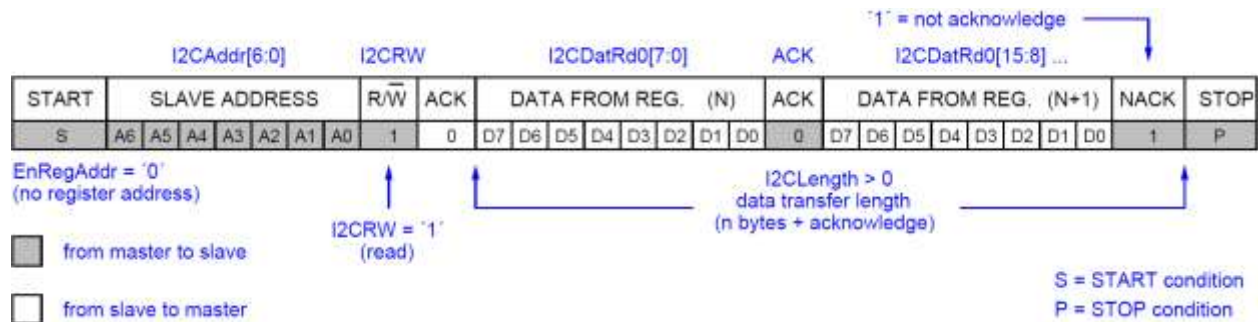

Figure 9: I²C Master Read from Current Address
- After the register address is sent the Master can begin reading from this address (Figure 9)